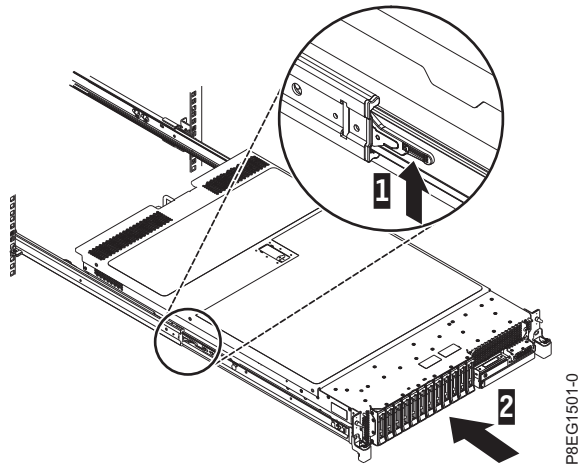

Figure 7. Lifting the release latches and pushing the server into the rack
3. Lift the blue release latches (1) on the slide rails and push the server (2) all the way into the rack until it clicks into place. For details, see Figure 7 on page 7.